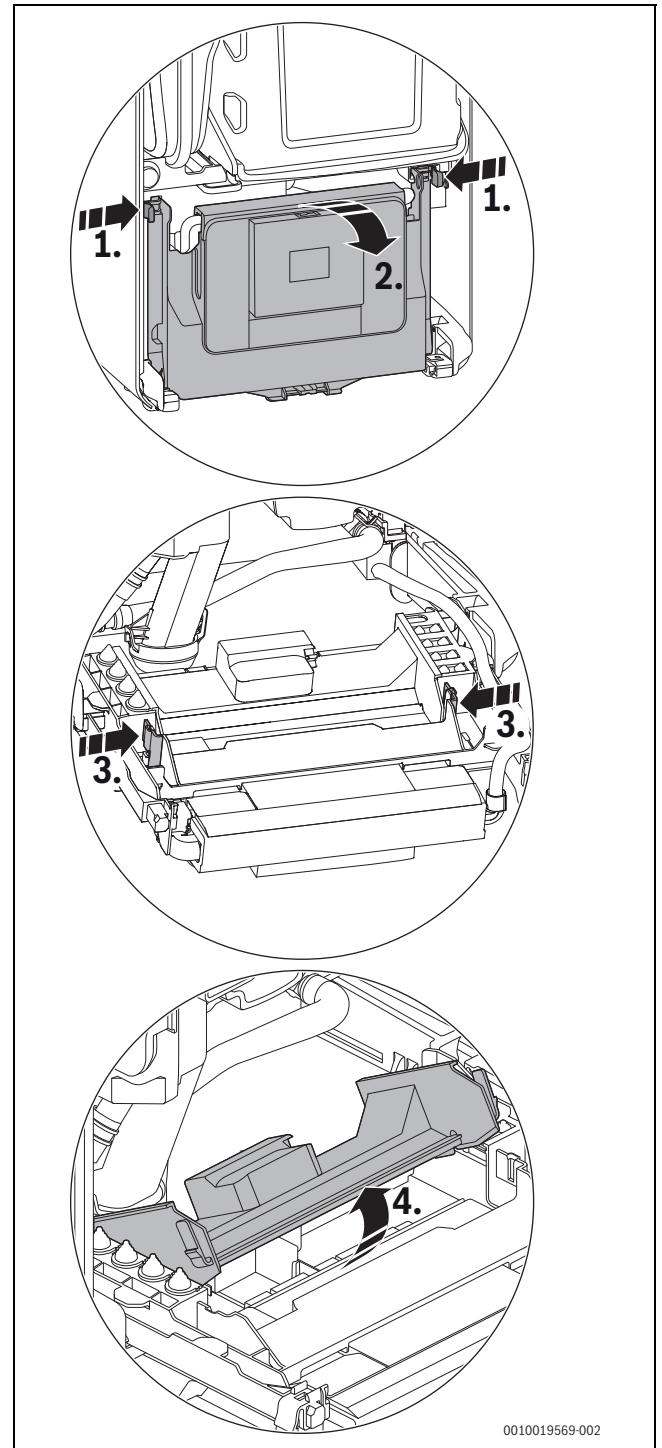

Fig. 52 Opening the cover
If the power cable is of insufficient length, accessing the connection terminal (→ Fig. 52)
- ▶ Flip down the control appliance (→ Fig. 52).
- ▶ Flip down the control unit (→ Fig. 52).